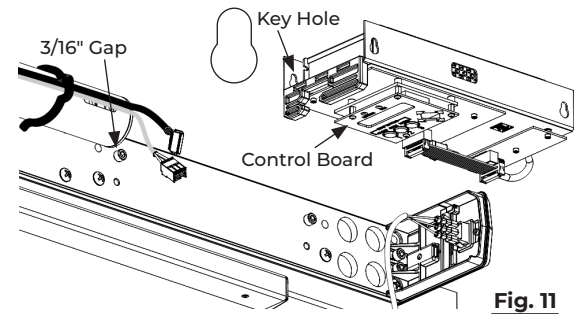

Fig. 11
1. Insert two (2) screws. Leave 3/16" gap between head of screw and backplate. (Fig. 11)